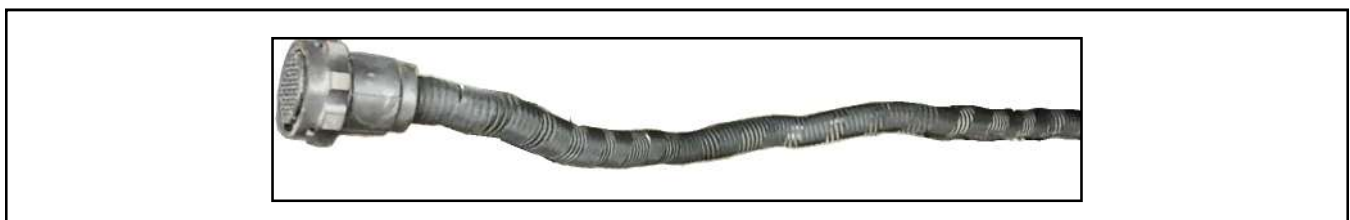

Figure 7 - Convoluted Tubing and Coroplast Tape
- 1.11. Replace the convoluted tubing if damaged (N28083-07) and reinsert the taped wire bundle into it. Apply Coroplast tape (N74787) over the convoluted tubing to tighten the loom. Do not overlap (see Figure 7).